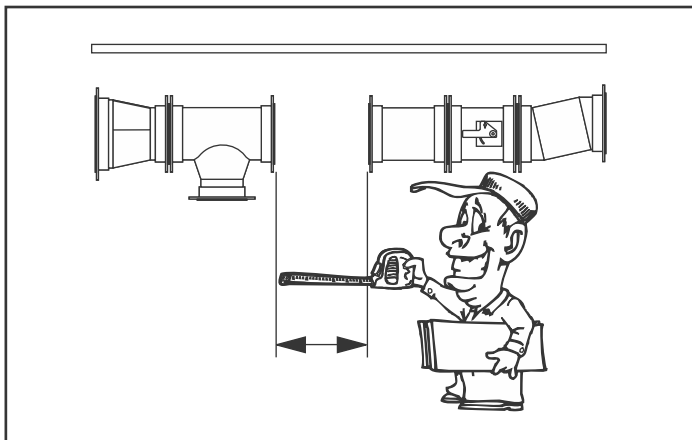

Fig. 18: Measure for modification
1. Measure The Duct: Measure the installation for the desired section length. (Fig. 18) Transfer this measurement to the duct section to be shortened. Add 3/8" (9.5) to the measured length to allow for the flange height. Mark this measurement in several places around the duct circumference. Connect these marks using a marking pen and flexible ruler.